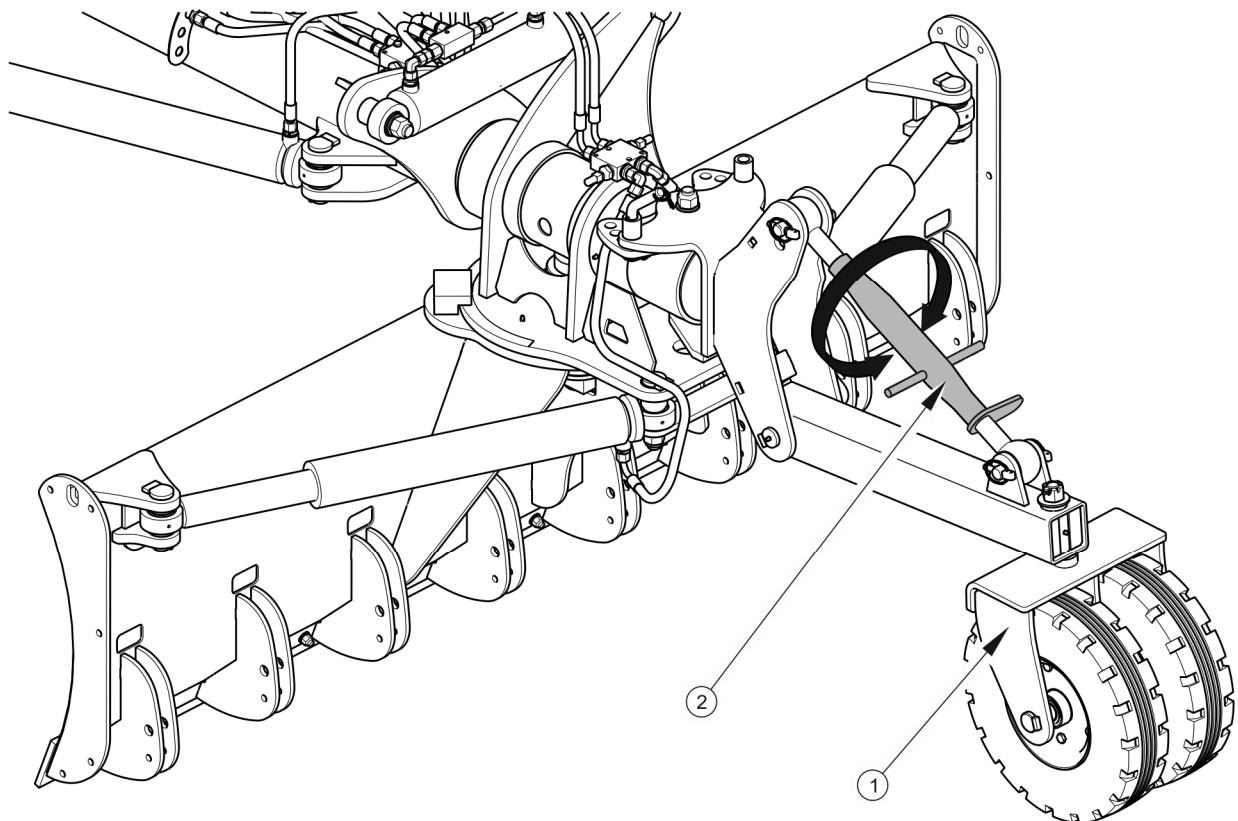

FIGURE 4.3 Setting the working depth
To set the road grader working depth, adjust the height of the jockey wheels (1) by means of the bottle screw (2) - (FIGURE 4.3). Tighten the screw to raise the jockey wheels and increase the road grader working depth. Unscrew the bottle screw to reduce the working depth.